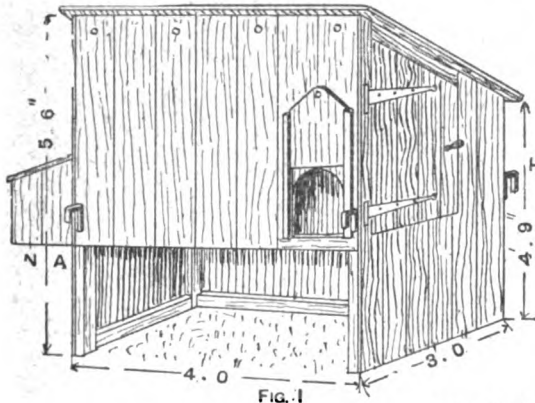
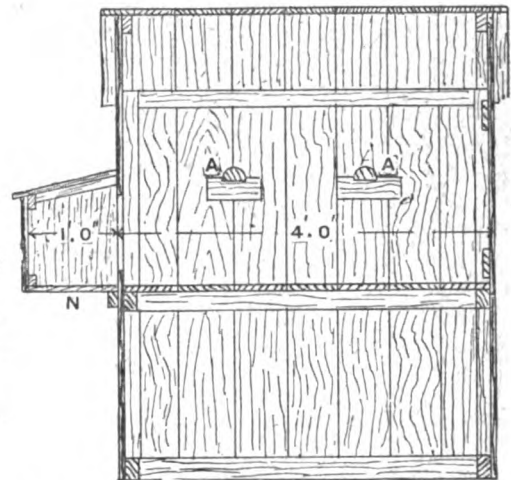

Fig. 1
Fig. 2
**Lean-to Fowl House.**—Fig. 1 gives a general view of a house to accommodate about eight chickens, and Fig. 2 a section lengthways showing an outside nesting box. The house is 4 ft. long, 3 ft. wide, 5 ft. 6 in. high in the front, and 4 ft. 9 in. at the back. The floor is kept 2 ft. above the ground to provide a dry run for the fowls in wet weather, but if other accommodation is available, this may be dispensed with and the house kept 2 ft. lower. The house may be built of 2½-in. by 2-in. framing covered with 1-in. matchboarding, with 1-in. boarding for the floor. A ledged door is provided at one end, and
the nesting box N (Figs. 1 and 2) may run the full width of the other end and be divided by matchboard partitions into three parts. The boxes may open either at the top outside or in front. Two perches may be placed in the position shown at A (Fig. 2); these can be made by sawing a 2½-in. diameter pole through the middle. It is hardly worth while to make such a small house to bolt together, as by screwing four hooks at the corners as shown at H (Fig. 1), through which two rails could be placed, the house could easily be carried by two persons.